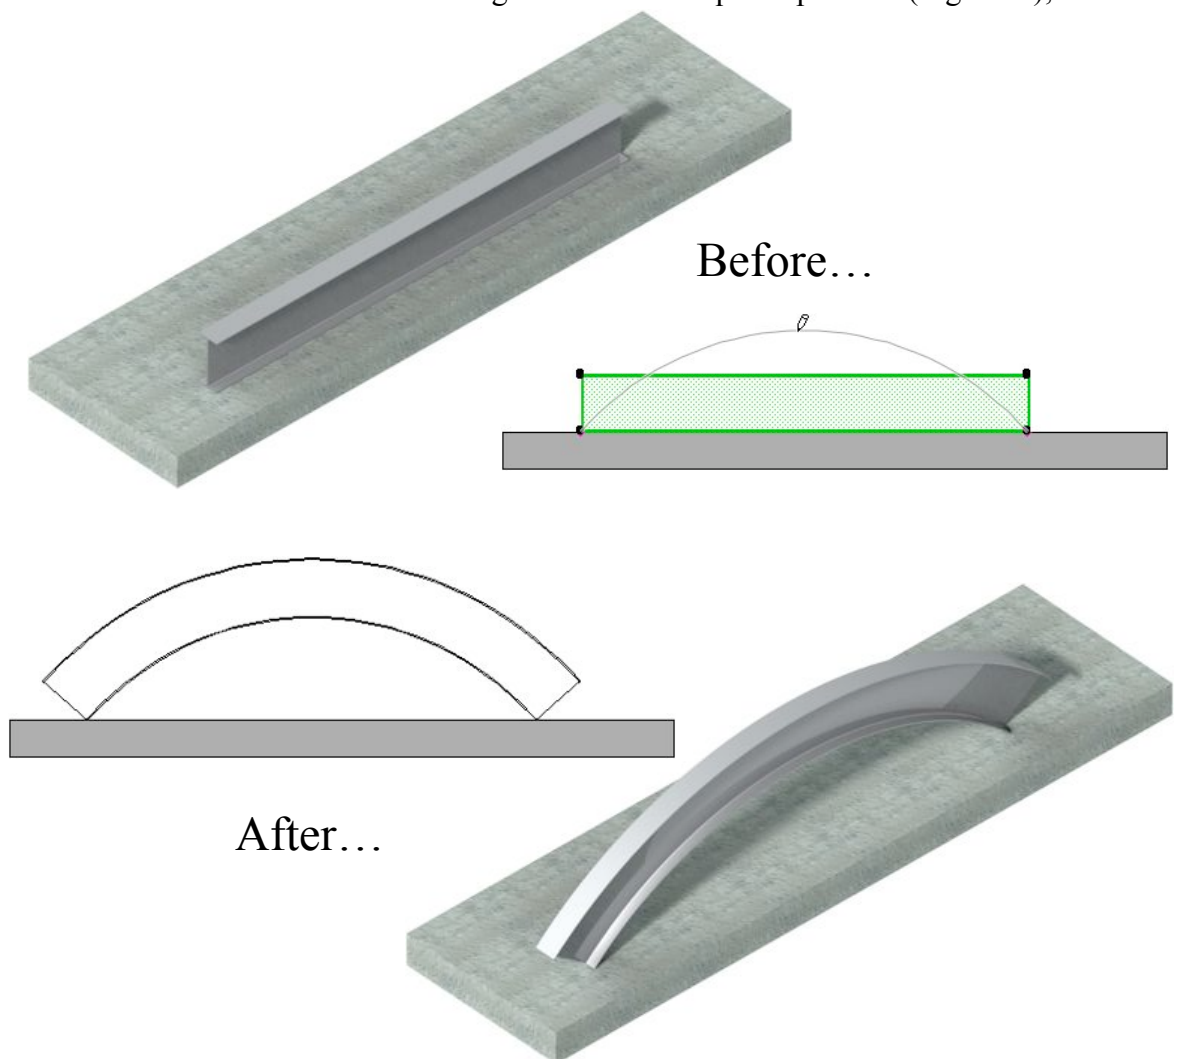

Figure 4.41
- Move the rubber-banded bending radius to the required position (Fig. 4.41);